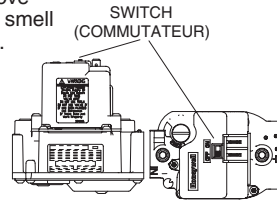

Figure 1
6. Move the gas control switch to the "OFF" position. (See Figure 1)
7. Wait five (5) minutes to clear out any gas. Then smell for gas, including near the floor. If you smell gas, **STOP!** Follow "B" in above information. If you don't smell gas, go to the next step.
8. Move the gas control switch to the "ON" position. (See Figure 1)